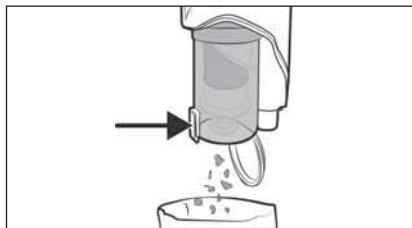

Fig. 18
- 1) Hold the dust container **7** in a waste bin and press the release button for the dirt container lid **8**. The dust container lid **9** opens and the contents are emptied into the waste bin (see Fig. 18). Then close the dust container lid **9**.